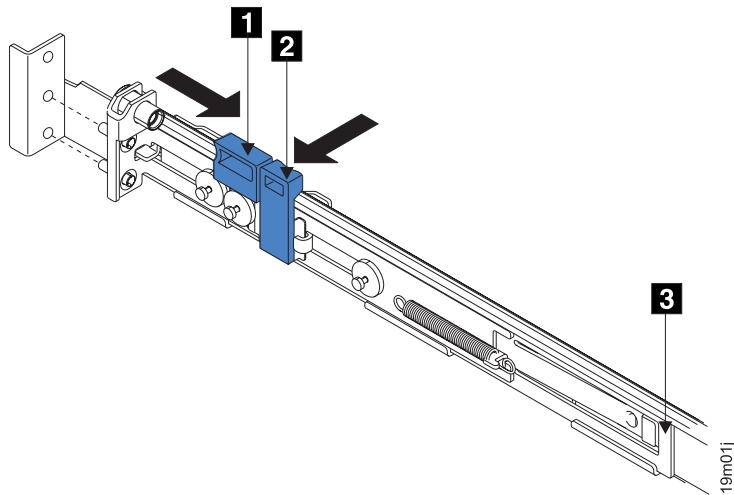

Figure 43. Opening the back latch-lock carrier assembly
5. Push the back rail bracket **1** (Figure 43 on page 62) toward the front of the rail until it stops. The rail is now at its shortest adjustment.